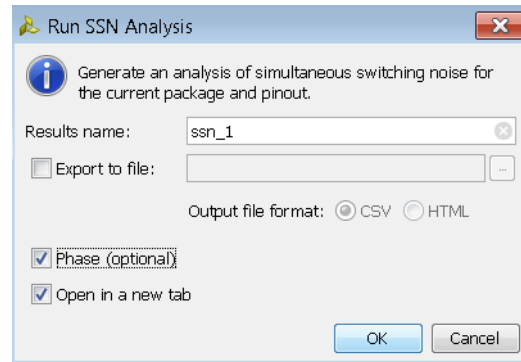

Figure 3-32: Run SSN Analysis Dialog Box
2. In the Run SSN Analysis dialog box (Figure 3-32), set the following options, and click **OK**.